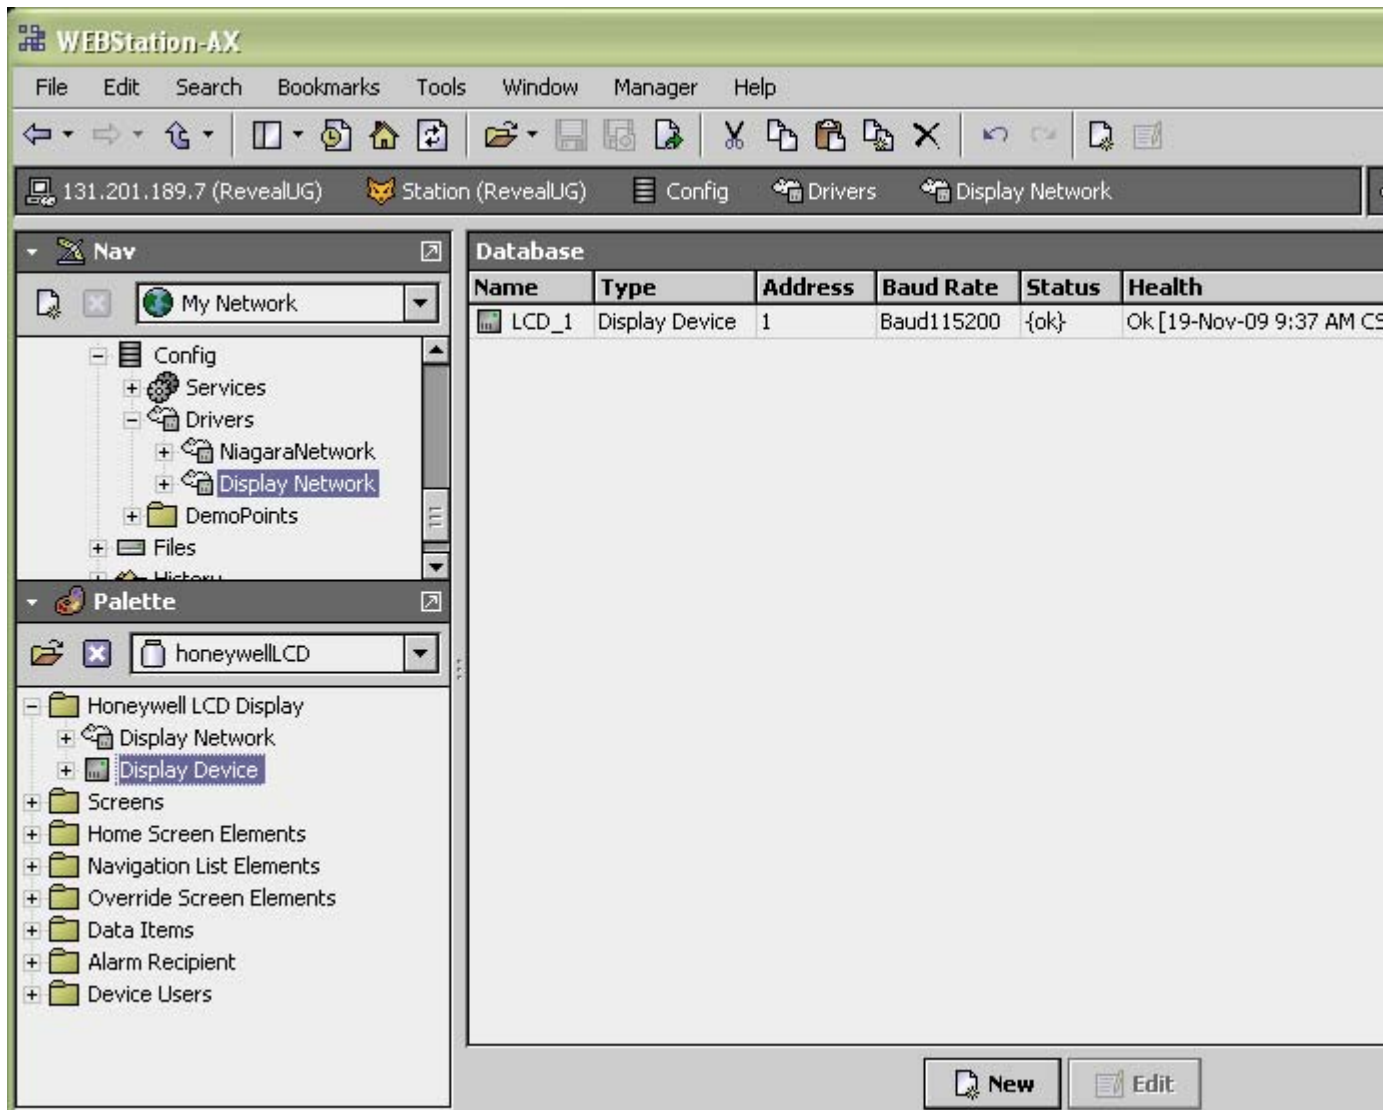

Fig. 8. View of all Network Devices.
1. After connecting to the WEBS/CP Controller's station, expand the Config node in the NavTree, expand the Drivers node, and then double-click on the Display Network node. The Basic Device Manager view displays; this is a list of all configured networks in the station. See Fig. 8.